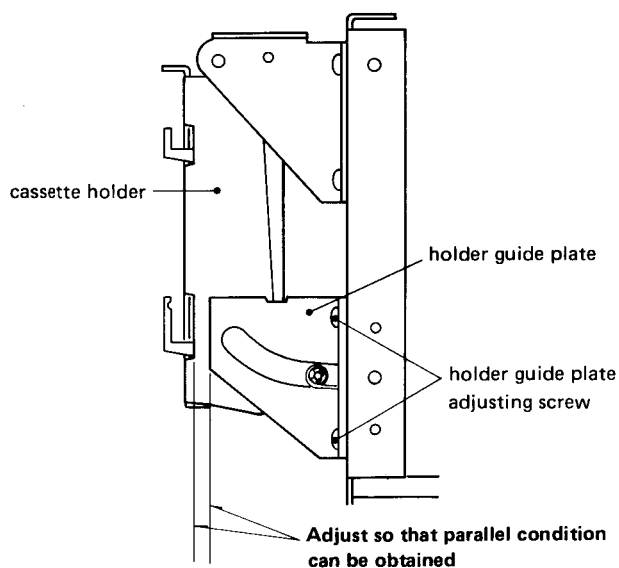

Fig. 4-1
1. Adjust the holder guide plate position so that when the cassette holder in which the cassette tape is loaded is closed, the parallel condition shown in Fig. 4-1 is obtained.